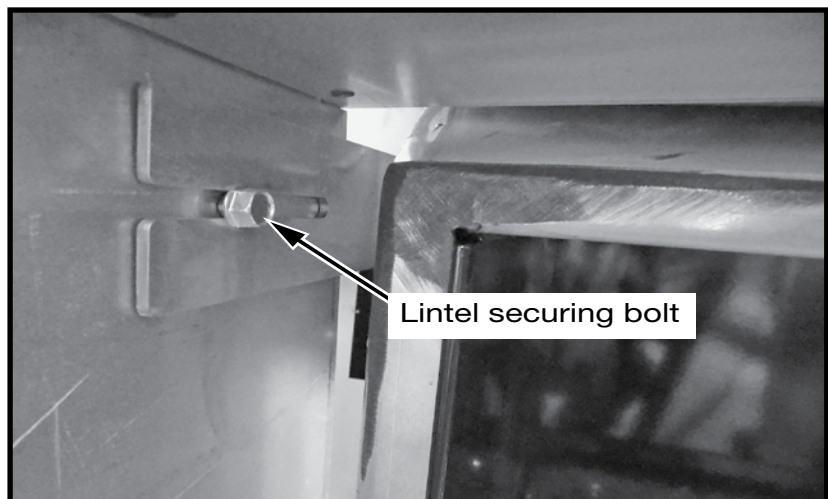

Figure 22: Upper left securing bolt.
4. Loosen the securing bolts in the upper and lower corners on each side of the lintel (Figure 22) and remove the lintel. Rotate the assembly to have the desired edge away from the fireplace.